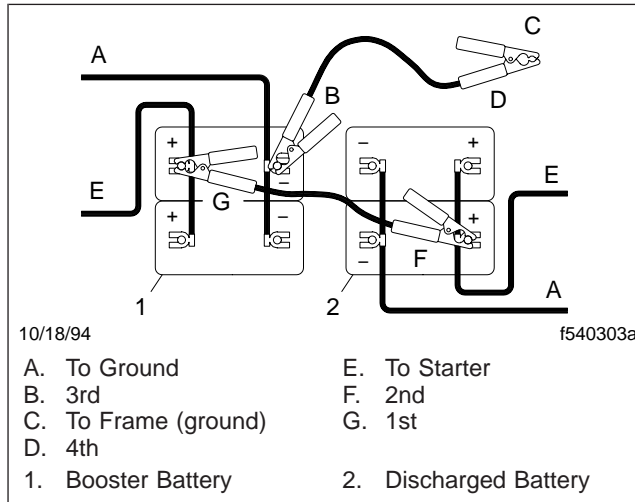

Fig. 10.2, Jumper Connections
2. Connect an end of one jumper cable to the positive terminal of the booster battery, or jump-start post if equipped, and connect the other end of the cable to the positive terminal of the discharged battery, or jump-start post if equipped. See Fig. 10.2.